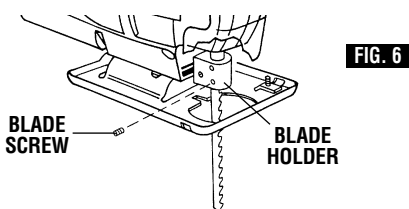

FIG. 6
1. **For Manual Scrolling and non scrolling use**, insert the blade to full depth, with blade in the center position of blade holder directly under the plunger as shown (Fig. 6).